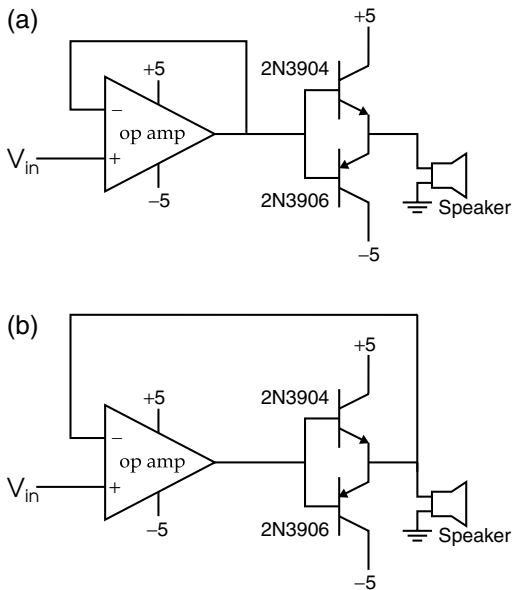

Fig. 8.9. Op amp follower with push-pull output-buffer power driver with two feedback arrangements: (a) feedback before and (b) feedback after power driver.
- ▷ First hook up the circuit of Fig. 8.9(a) to see crossover distortion in action. This circuit is susceptible to noise, so be neat and orderly and keep the leads as short as possible. Use an audio-frequency sine wave, in the vicinity of 1 kHz.
- ▷ Rearrange the feedback loop to include the push-pull driver inside it (Fig. 8.9(b)), and compare the input and output waveforms again. What does the signal at the op amp output look like, and why?